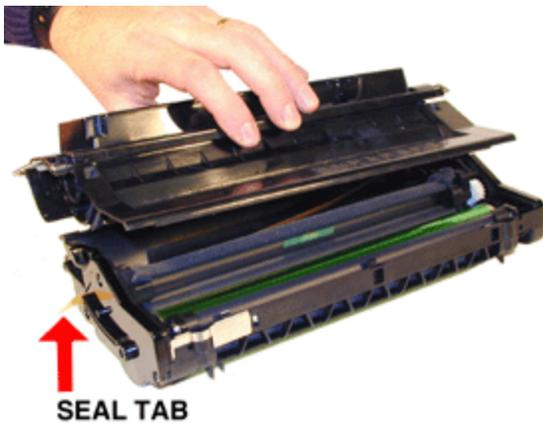

FIGURE 33
29. Turn the hopper over. Make sure there are no leaks, and that the drum cover is still taped to the back of the hopper. Slide the pull-tab of the seal through the slot in the base of the toner feeder section. See Figure 33